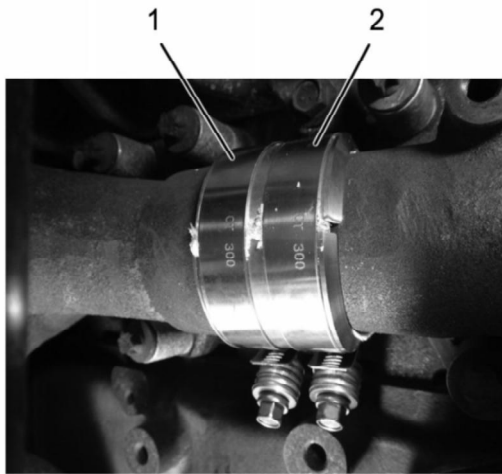

Figure 25: Front Exhaust Manifold Ring Seal
26. Remove and discard failed front exhaust manifold ring seal if applicable (**Figure 25**, Item 1)